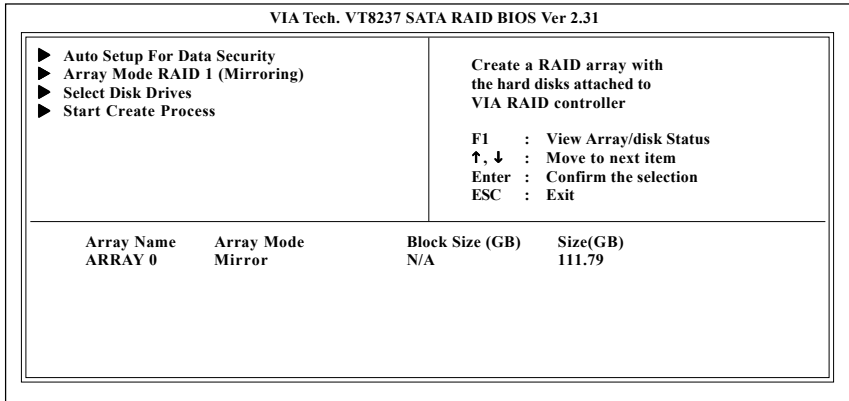

Figure 17
5. When the configuration is completed, you may check the RAID array information by pressing the <F1> key (Figure 17).